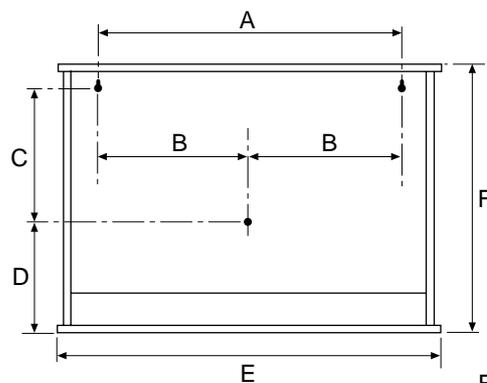

Fig. 3
2. The positions of the fixing holes are as follows (see Fig. 3):